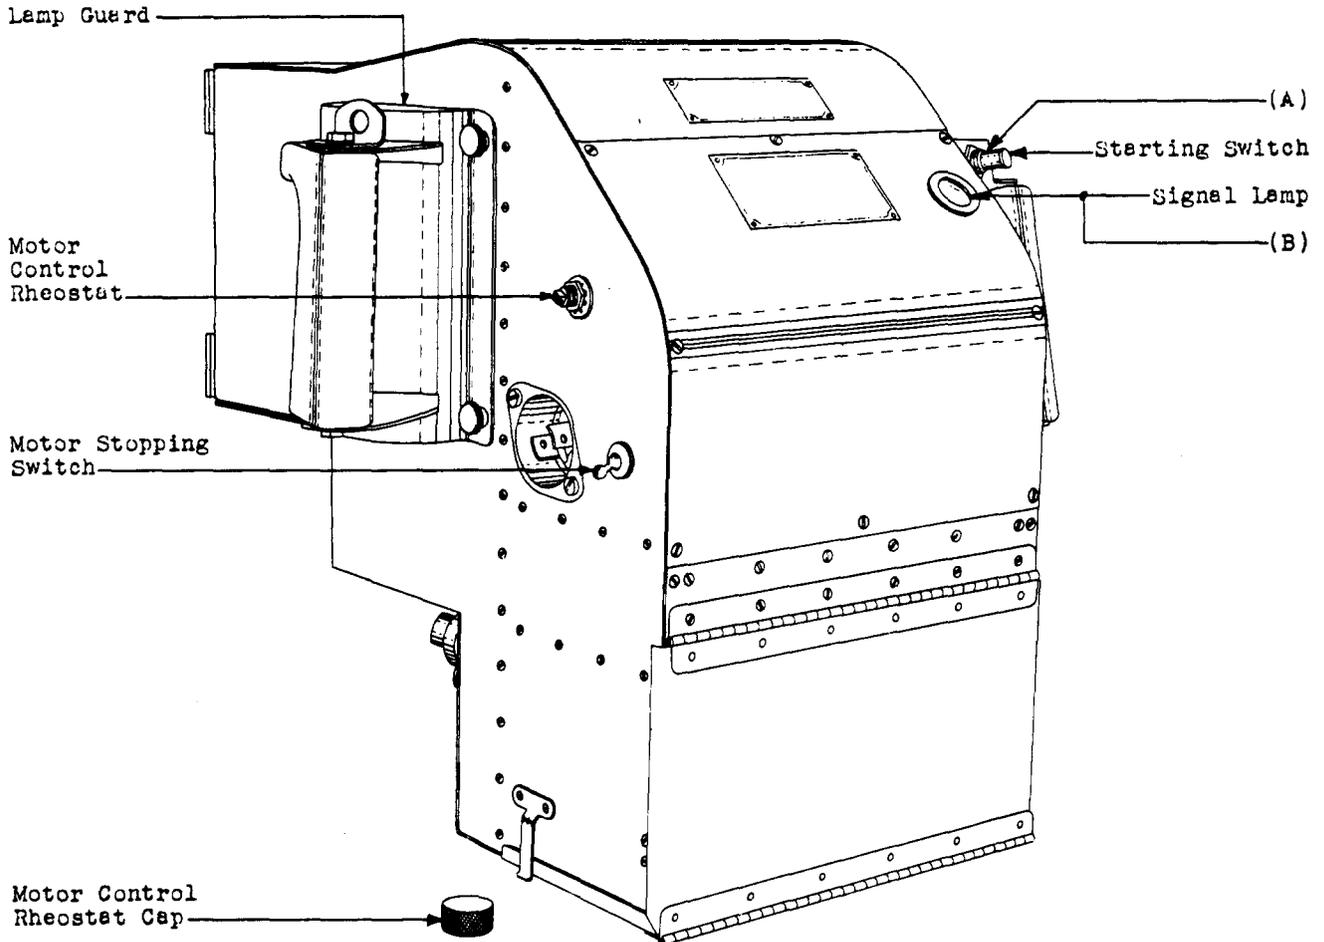

Fig. 1 - KS-8320 Camera
- (5) Starting Switch Plunger - Fig. 1 (A)
- (6) Starting Switch Plunger - Fig. 1 (A)
(1) To check that the light baffles are satisfactorily positioned, attach a sheet of bond paper to one side of a plate of 1/8" thick glass cut approximately 7" x 9". With the camera lying hood up, place the glass with the bond paper down inside the hood. The glass should be below and make contact with the flat surface which bears against the faces of the message register covers. If the glass fits snugly it will rest on the reflectors. If necessary, fasten the glass in position with a commercial brand of gummed tape. Operate the starting switch and when the photographic lamps light, stop the motor by operating the motor stopping switch. Check that the illumination is approximately uniform over the surface of the plate (there should be no vertical band near the middle of the plate which is darker or lighter than the rest of the plate). This check must be made when looking at the plate from a position directly above it and not from either side of its center.
2.04 Freedom of Movement of Starting Switch, Measuring Roller Release Pin, Pressure Plate, and Film Guide Roller, Fig. 1(A), 2(I) and 6(D) and (E):